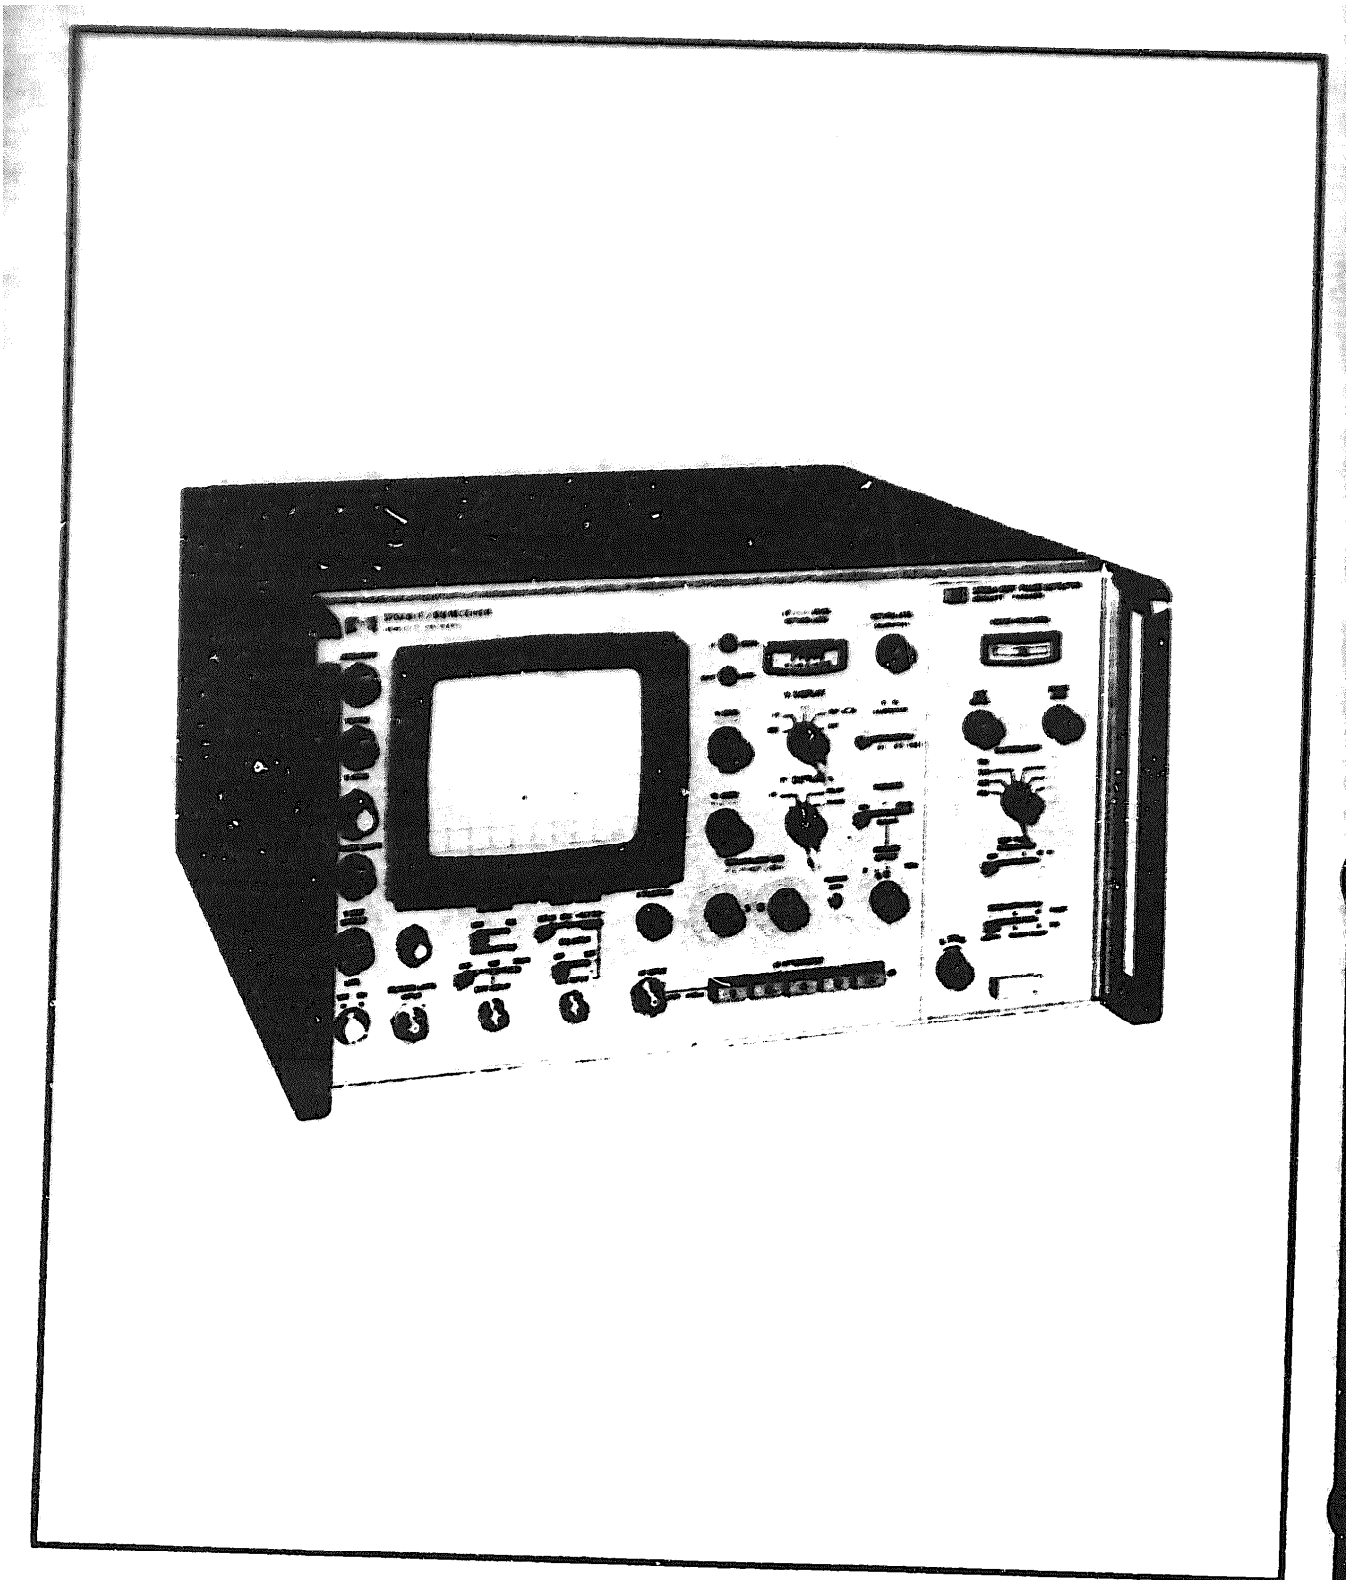

Figure 1-1. hp 3702B IF/BB Receiver
**This manual describes IF/BB Receiver R-2049(V)1/U (HP 3702B) (fig. 1-1) and provides maintenance instructions. Throughout this manual, the R-2049 (V)1/U is referred to as the Hewlett-Packard (HP) 3702B.**